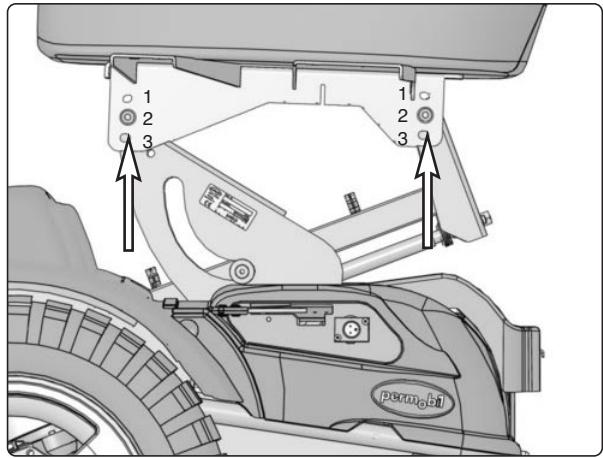

Fig. 1.
6. Remove the seat, which is held in place with two screws (see fig. 1).